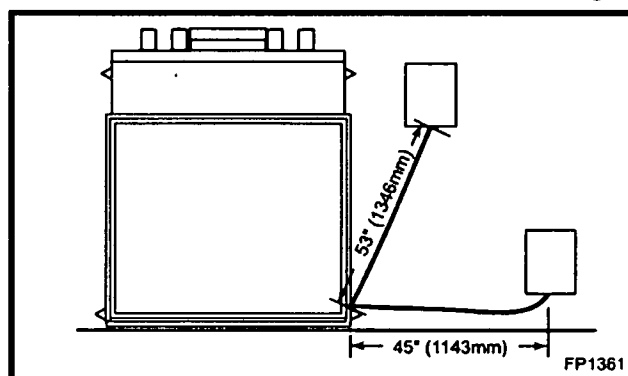

Fig. 7 Valve box assembly location.
5. The gas components are located in the control panel assembly attached to the right side of the unit. Choose the desired location on the wall or mantel for the valve box assembly: The conduit length is 5' (1524mm). (Fig. 7) The framing dimensions for the box are 12 1/4"L x 9 1/4"W x 5 5/8"D (311mm x 235mm x 143mm). When the framing for the box is complete, remove the screws securing the valve box to the outer casing. Carefully remove the valve box and, without stressing the conduit, slide the box into the framed opening. Replace the screws removed from the side of the outer casing.